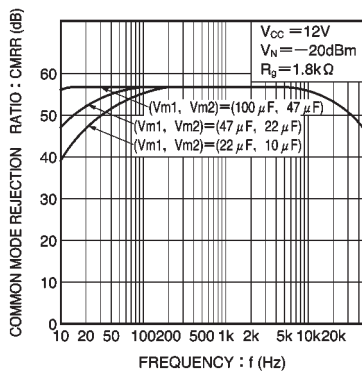

Fig. 16 Common-mode rejection ratio vs. frequency
- (1) Maintain a ratio of 2: 1 for the values of the capacitors connected to pin 2 (V_{m1}) and pin 6 (V_{m2}) to keep the ripple rejection ratio stable. If this ratio is maintained, the ripple rejection ratio will not vary significantly even if the capacitance values are halved.
- (2) If the value of the capacitor connected to pin 2 (V_{m1}) in the example is doubled, the bass-region CMRR will be +6dB, and if it is halved, it will be -6dB (see Fig. 16).